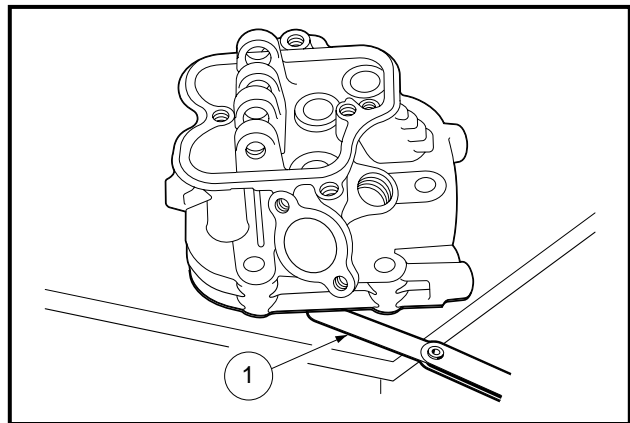

Figure 13-17 Check Flatness of Head Surface
4. Place the cylinder head on a surface plate (**Figure 13-17, Page 13-12**).
5. Measure the space between the surface plate and the head with a feeler gauge (1) to check the flatness of the head surface (**Figure 13-17, Page 13-12**).